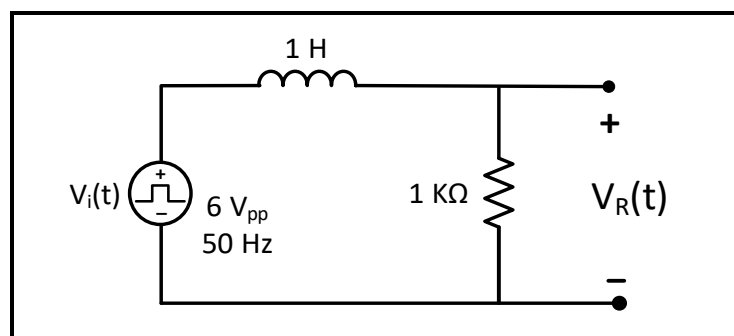

Figure 5.11
5. **Repeat steps 1-4 for the circuit of Figure 5.11**, but this time showing $V_R(t)$ instead of $V_L(t)$, and estimating the value of τ_R .